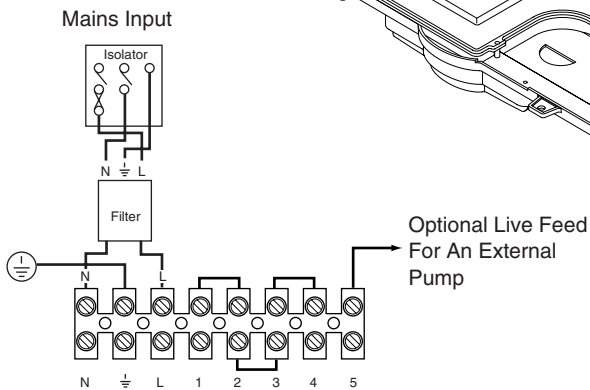

Fig. 28
2. To connect an external timer switch circuit, remove the link wire between terminals 1 & 2 and connect the switch circuit (Figs. 28 & 29 or 29a).